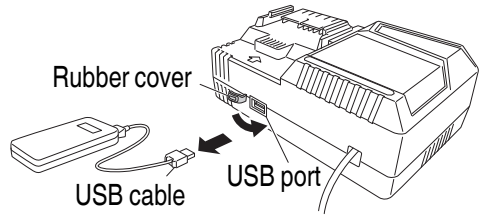

Fig. 32
- (3) When charging is completed
- Unplug the power cord from the electrical outlet. (**Fig. 32**)